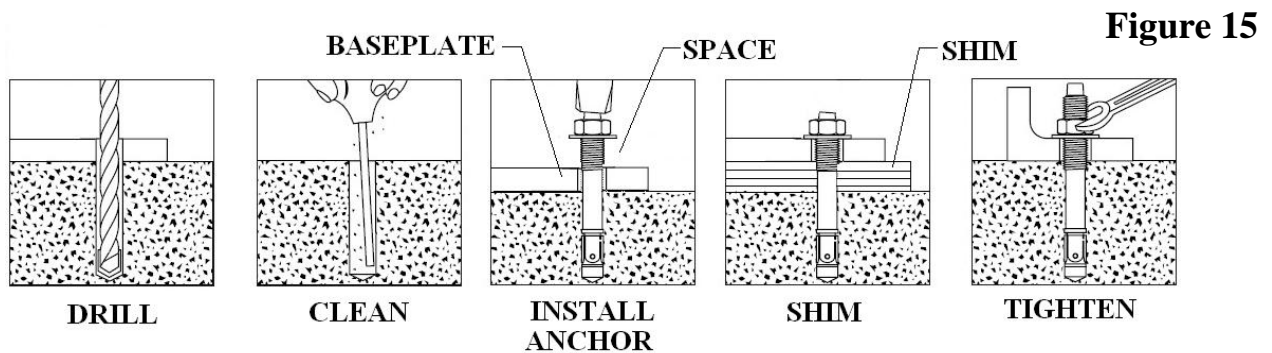

Figure 15
- Prior to installing anchors, assemble the nut and washer onto anchors. A minimum of six threads must be visible below the surface of the nut. Refer to the **Figure 15** while reading through the following instructions.